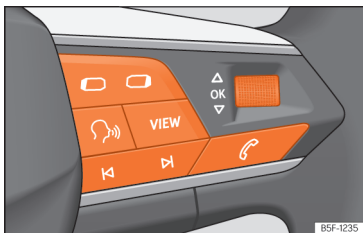

Fig. 13 Right side of multifunction steering wheel: buttons to the menus and informative indications on the instrument panel (depending on the version).
As long as a priority 1 >>> page 23 warning is active, it will not be possible to access any menu. Some warnings can be confirmed and hidden with the button **OK** of the multifunction steering wheel >>> Fig. 13.
- If a message or vehicle symbol is displayed, press the button **OK** >>> Fig. 13; several times if necessary.